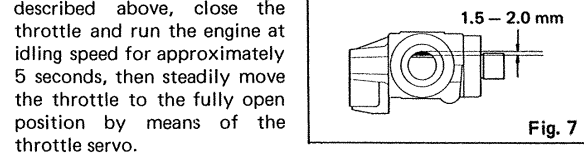

Fig. 7
1. Set the throttle lever very slightly open from the idle position (see Fig. 7) and start the engine in the usual way. It is preferable to have the throttle only slightly open, to avoid unnecessarily high revolutions when the engine starts.